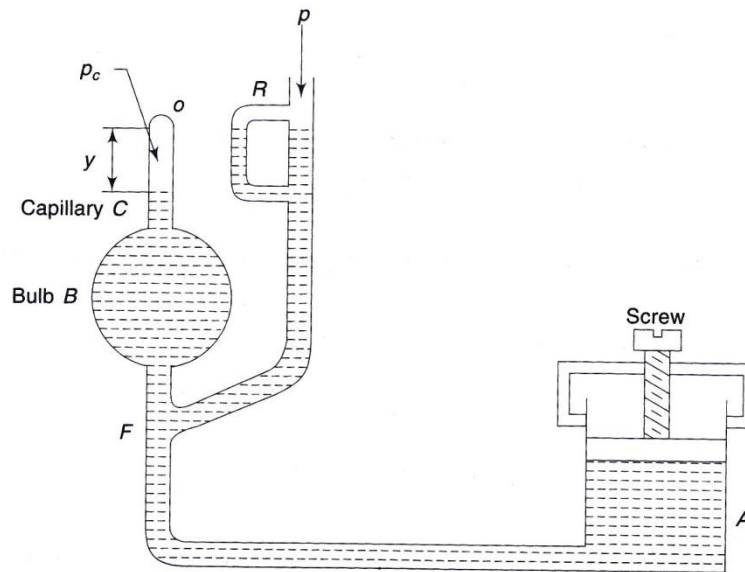

Figure 5(a)
5. (a) Refer to **Figure 5(a)**